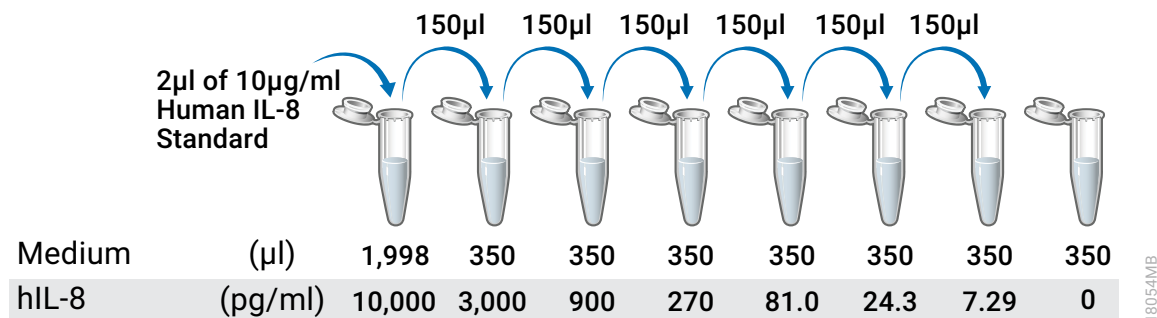

Figure 3. Human IL-8 dilution series.
3. Prepare an initial concentration of 10,000pg/ml human IL-8 by diluting Human IL-8 Standard (10µg/ml) 1:1,000 in prewarmed cell culture medium. For example, prepare 2,000µl of 10,000pg/ml human IL-8 by adding 2µl of the Human IL-8 Standard stock to 1,998µl of culture medium (see Figure 3).
3. Prepare an initial concentration of 10,000pg/ml human IL-8 by diluting the Human IL-8 Standard (10µg/ml) 1:1,000 in prewarmed cell culture medium. For example, prepare 2,000µl of 10,000pg/ml human IL-8 by adding 2µl of the Human IL-8 Standard stock to 1,998µl of culture medium (Figure 3).